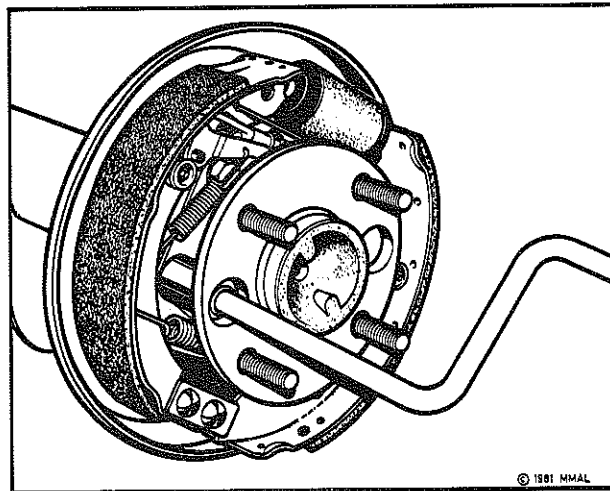

Fig. 1—Removing retaining bolts
- (1) Raise the rear of the vehicle and position a jack stand under the body.
- (2) Remove the rear wheel and brake drum.
- (3) Remove the axle shaft retaining bolts, refer Fig. 1.